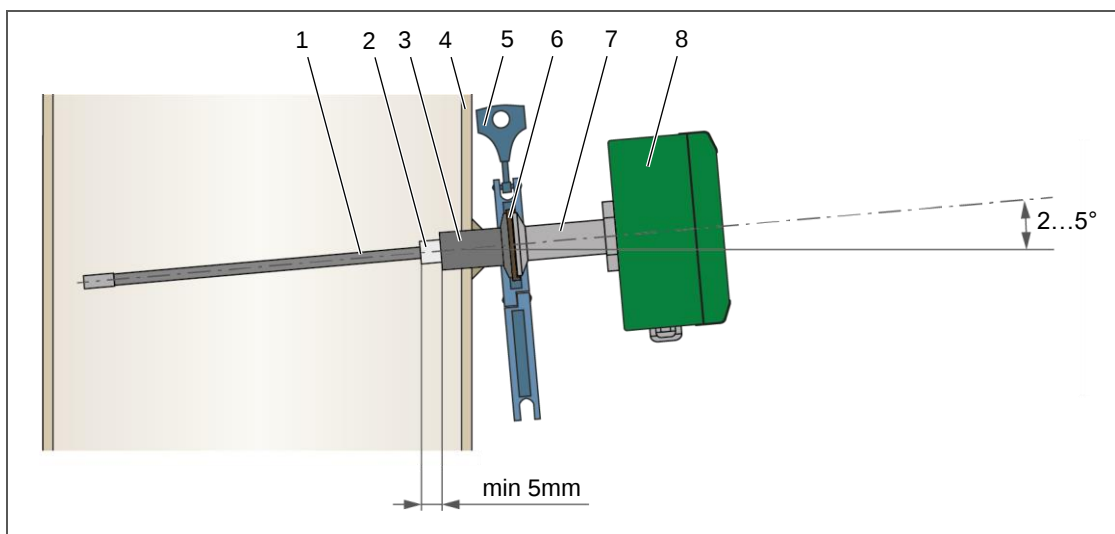

Fig 13: Fitting into the duct (side view)
1. Insert the seal (6, Fig 13) onto the welding sleeve (3).
2. Feed the device's probe rod (1) through the welding sleeve and into the duct, until the guide sleeve (7) lies on the seal (6).